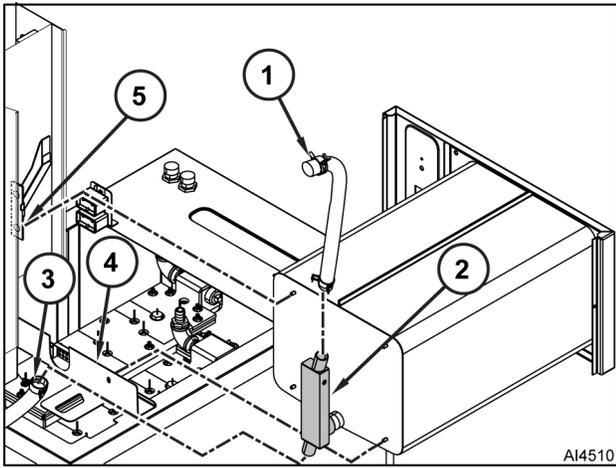

Fig. 49
- B. Remove vent hose (1, Fig. 49) from vent weldment (2).
- C. Remove drain hose (3) from bottom of vent weldment (2).
13. Remove nuts that secure cooking compartment to cross frame (4).
14. Remove nuts that secure cooking compartment to bracket (5).